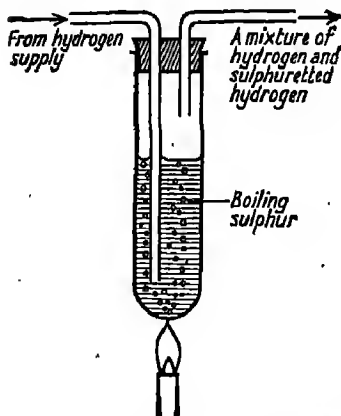

FIG. 113. To show that hydrogen and sulphur combine.
**Expt. 159. To show that hydrogen and sulphur combine.** Fit up the apparatus shown in Fig. 113. Heat the sulphur in the boiling tube until it boils, and then pass hydrogen from a generator into the sulphur. Put a piece of paper which has been dipped into lead acetate solution at the mouth of the delivery tube. The lead acetate turns black. There is a smell of bad eggs.